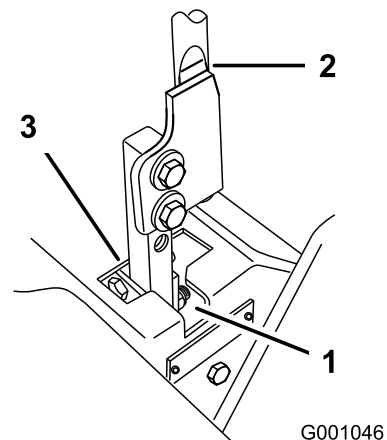

Figure 68
- Move the lever to the neutral position but **not locked** (Figure 68).
- Pull the lever back until the clevis pin (on arm below pivot shaft) contacts the end of the slot (just beginning to put pressure on the spring) (Figure 68).
- Check where the control lever is relative to notch in console (Figure 68). It should be centered allowing lever to pivot outward to the neutral lock position.